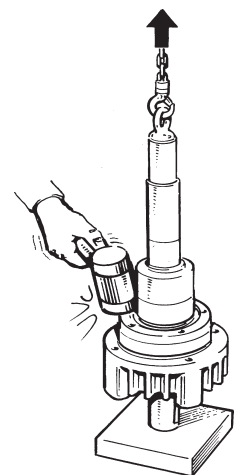

Fig. 10 Only applies to 5F and 6F The bearing housing is removed from the shaft-bearing unit.
7. Remove the bearing cover. Tap off the bearing housing from the shaft-bearing unit, see Fig. 10. Lift up the locking washer, unscrew the lock nut and remove the locking washer.